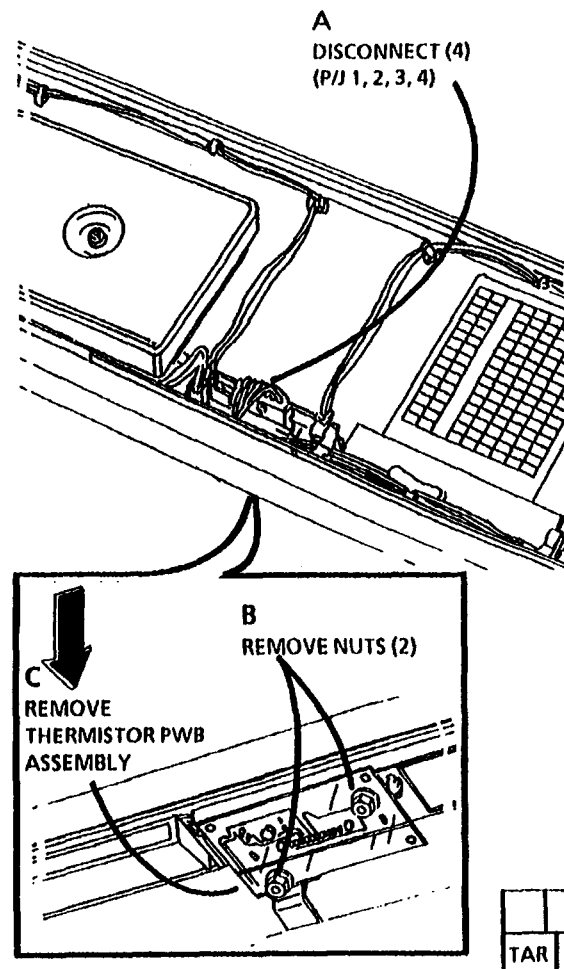

Figure 1. Remove the Thermistor Assembly
5. (Figure 1): Remove the Thermistor Assembly PWB (RT1).